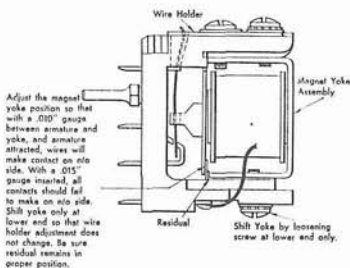

Figure 19
5. Figure 19. Adjust the magnet yoke assembly so that with a $.010"$ thickness gauge between the armature and yoke at the free end of the armature, and the armature attracted, all con-